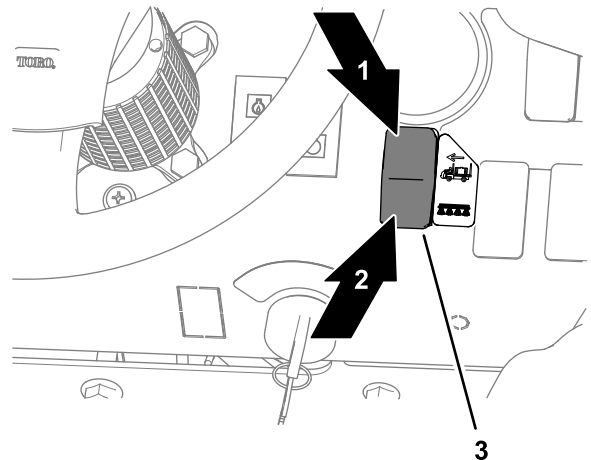

Figure 146
8. On the dash panel of the machine, press enable/transport switch to the ENABLE MODE position (Figure 146).